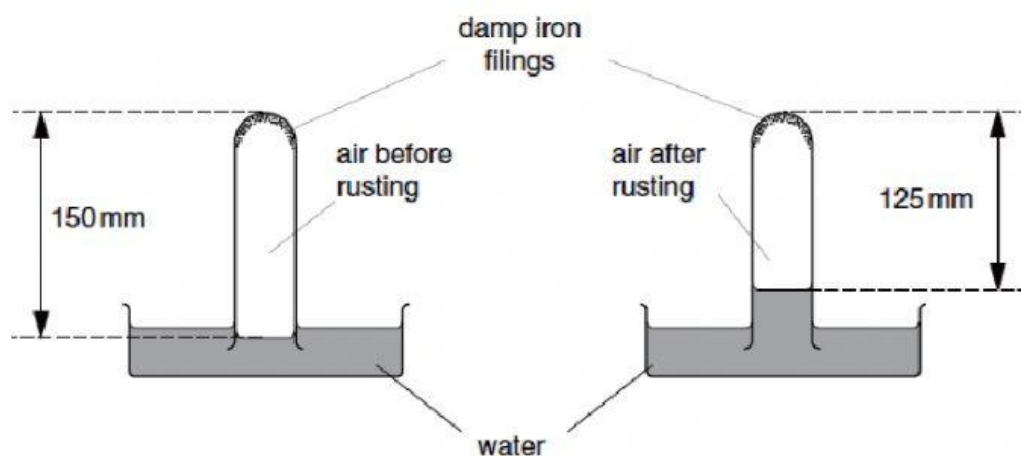

Fig. 1
1. Fig. 1 shows an experiment about the rusting of iron fillings. As the iron rusts, the level of the water rises in the inverted test-tube.
- (a) Use Fig. 1 to calculate how far up the test-tube the water rises.